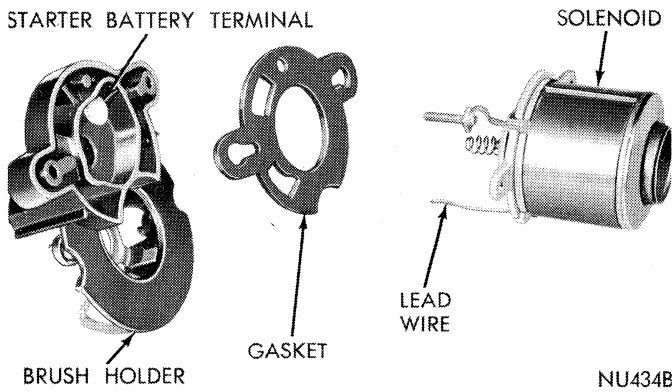

Fig. 31—Assembling Solenoid to Brush Holder Plate
(11) Position seal on brush holder plate.
(12) Enter solenoid lead wire through hole in brush holder (Fig. 31) and install solenoid stud, insulating washer, flat washer and nut.